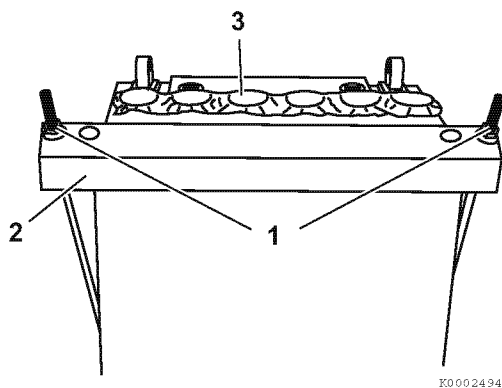

Figure 14
Do not remove the aluminum foil or sealing tape (3, **Figure 14**) from the battery until it is ready to be filled with electrolyte. Removing the foil or sealing tape will cause the battery to lose its dry charge.
1. Loosen nuts (1, **Figure 14**) that secure the battery hold-down (2, **Figure 14**).